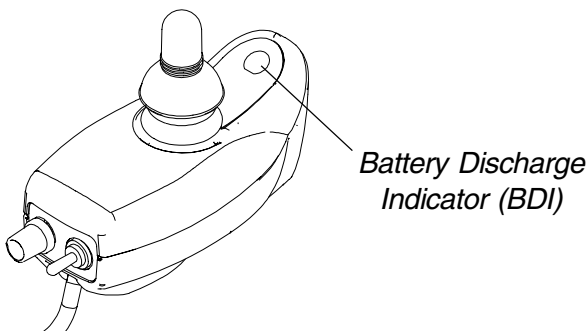

FIGURE 4 - WHEN TO CHARGE BATTERIES
3. Disconnect the battery cable from one (1) battery terminal/post. Refer to CONNECTING/DISCONNECTING BATTERY CABLES in this procedure of the manual.
**WHEN TO CHARGE BATTERIES (FIGURE 4)**